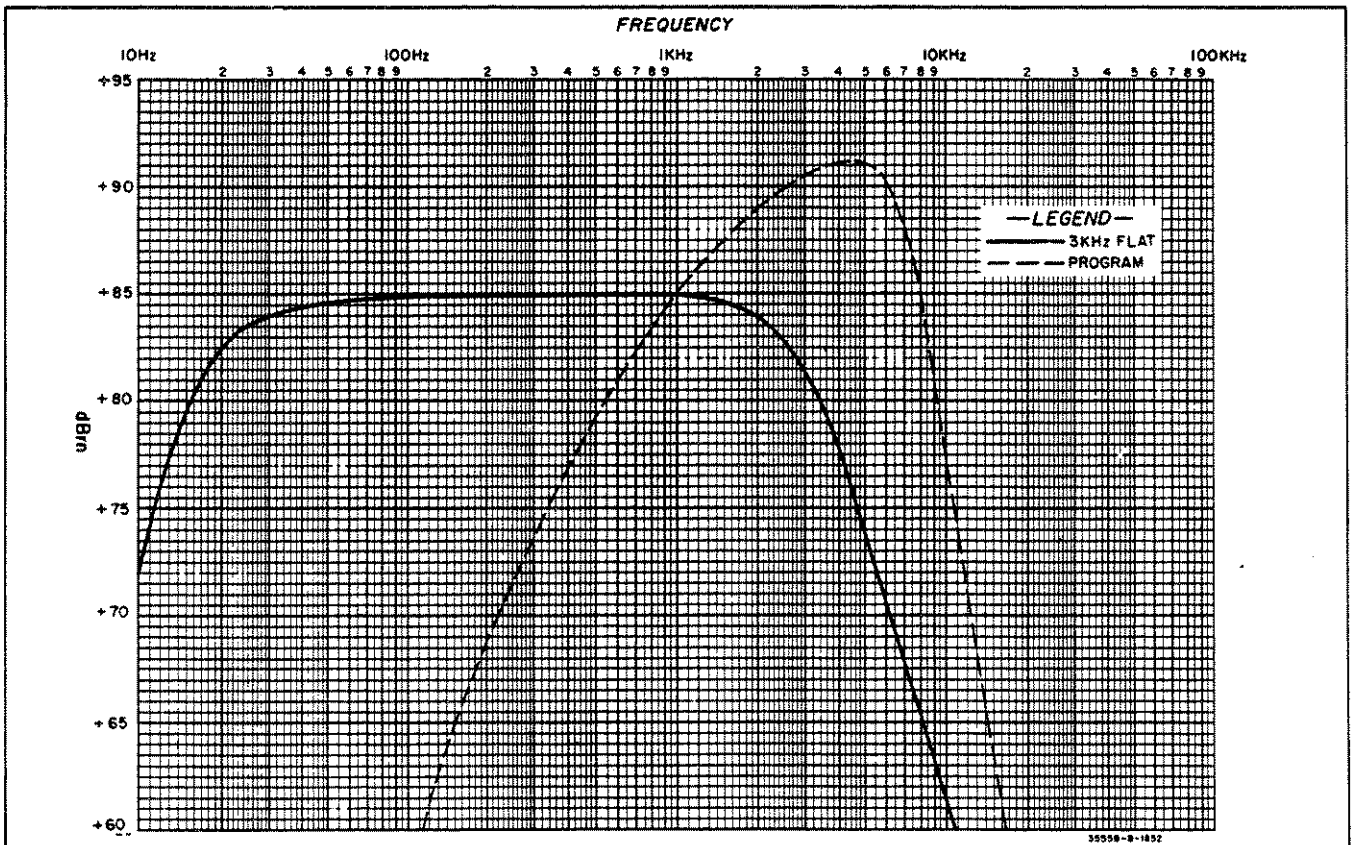

Figure 3-2. 3 kHz FLAT and Program Weighting Curves.
**3-31. 3 kHz Flat.** The 3 kHz Flat weighting filter is used on voice frequency circuits when investigating low-frequency noise, such as power induction. The frequency response of this filter is shown in Figure 3-2.
**3-33. Program.** The Program filter is used for weighted measurements of noise on radio and television studio-transmitter and studio-remote audio links. The frequency response of this filter is shown in Figure 3-2.